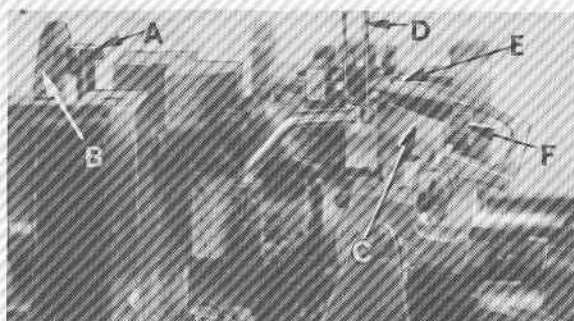

Fig. 11
The differential feed ratio is set by loosening screw (A, Fig. 11) and moving the selector slide (B) to the desired position. The screw and selector slide are accessible through the top of the cloth plate on the left side. Moving the differential feed selector slide (B) toward the front increases the amount of differential and moving it back decreases the differential feed. Retighten screw.
Set the rear needle guard (C Fig. 11) horizontally so that it does not quite contact the rear of the right needle (D) when at its most forward point of travel. A clearance of .005 inch (.127 mm) is permissible. It should be set as low as possible, yet have its vertical face approach within about 3/64 inch (1.19 mm) of the needle, until the point of the looper (E), moving to the left, is even with the needle. To move needle guard merely loosen screw (F), move needle guard as required, and retighten screw.